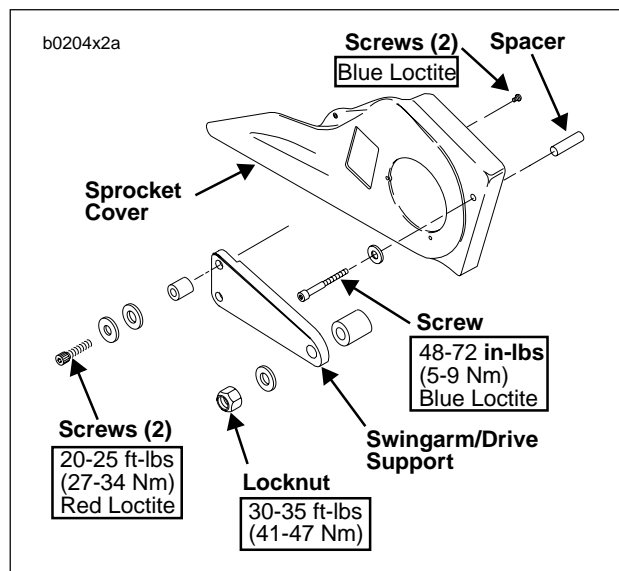

Figure 2-73. Sprocket Cover
4. See Figure 2-73. On the right side of the motorcycle, remove the front sprocket cover assembly.
5. See Figure 2-73. Remove two screws that attach sprocket cover to the backside of the swingarm/drive support. Retain screws. Discard sprocket cover.
17. See Figure 2-73. Apply LOCTITE THREADLOCKER 243 (Blue) to threads of two sprocket cover to swingarm/drive support screws and install new sprocket cover to swingarm/drive support.
18. See Figure 2-73. Install **new** sprocket cover assembly with original hardware.